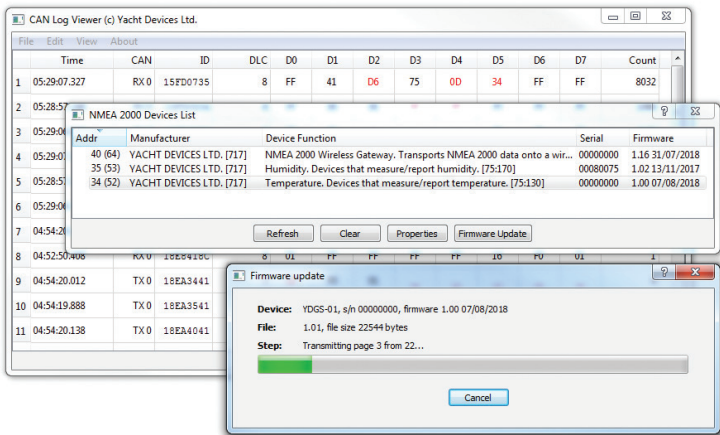

Figure 1. Firmware update of Exhaust Gas Sensor
2. Click the «Refresh» button (see Figure 1 at the next page) in the opened window and wait for the Device to appear in the list.